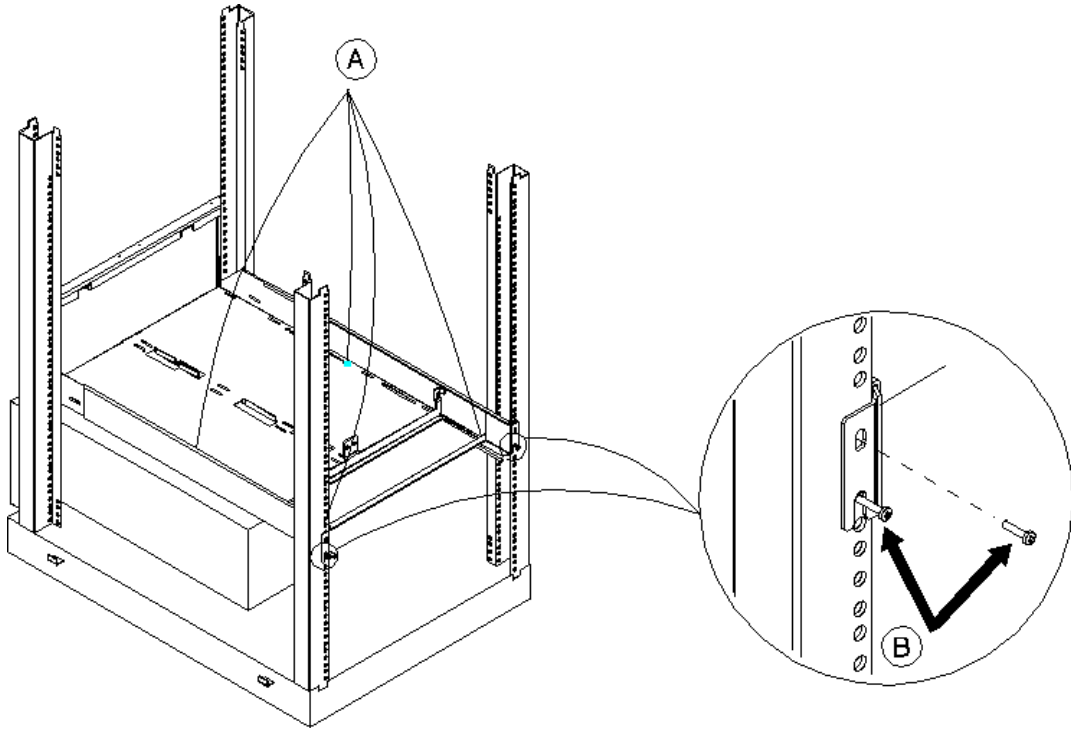

FIGURE 1-6 Tightening the Screws
5. To secure the shelf to the rack, install and tighten two screws (one on each side) into the upper hole on the back of the shelf (FIGURE 1-6).